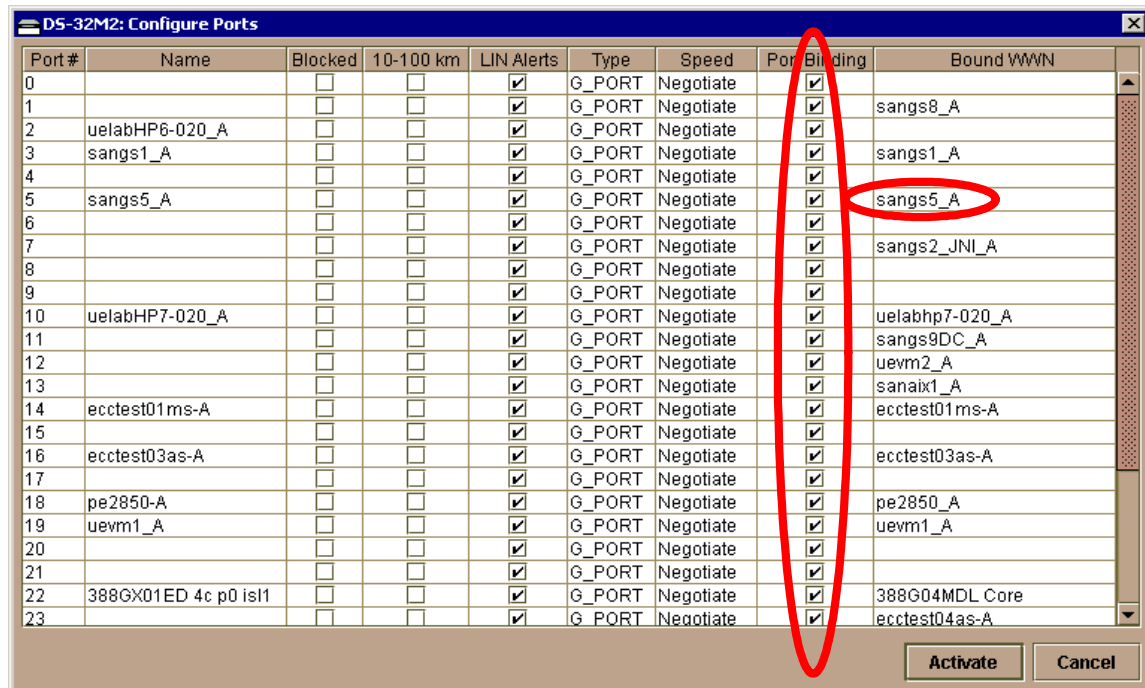

Figure 7 Bind All Ports To Attached WWNs
- After the Bind All WWNs option has been selected, the check box for each port in the *Port Binding* column will now be checked as shown in figure 7 below.
- Now the *Bound WWN* column will have either a WWN or a WWN alias listed for all ports that have a fibre cable plugged in as shown in figure 7 below.
- If there is no cable plugged into a port, there will be nothing in the *Bound WWN* column as shown in figure 7 below.